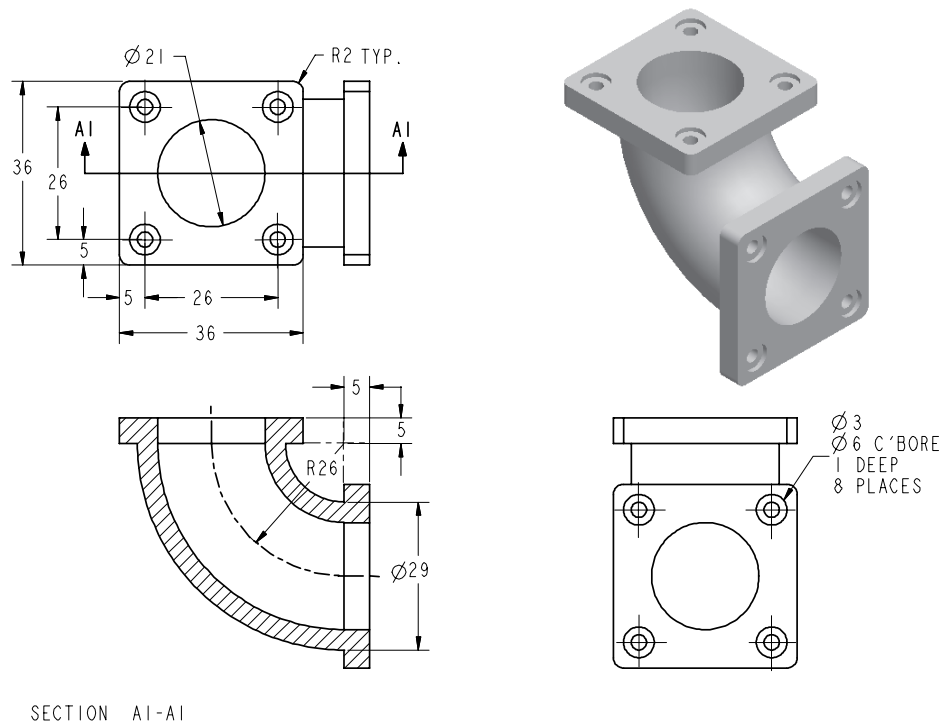

Figure 8-88 Top, front, right-side, and isometric views of the model.
In this tutorial, you will create the model shown in Figure 8-88. This figure also shows the sectioned front view, top view, and the right-side view of the solid model with dimensions. The hidden lines are suppressed for clarity. **(Expected time: 45 min)**
- a. Examine the model and determine the number of features in it. The model is composed of six features, refer to Figure 8-88.
Now, you need to specify the placement parameters for the hole. For this purpose refer to Figure 8-88 and look for the dimensions that can help in placing the hole. The two edges are used to dimension the hole.